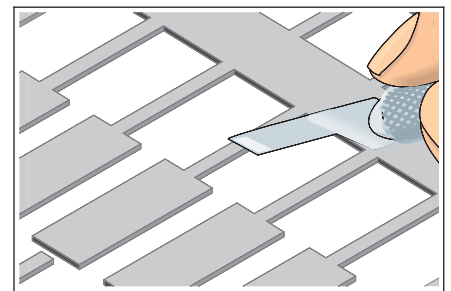

Figure 3 Cut out new pad.
9. Cut out and trim the new pad. Cut the length to provide the maximum allowable conductor overlap for soldering. Minimum 2 times the conductor width. (See Figure 3.)